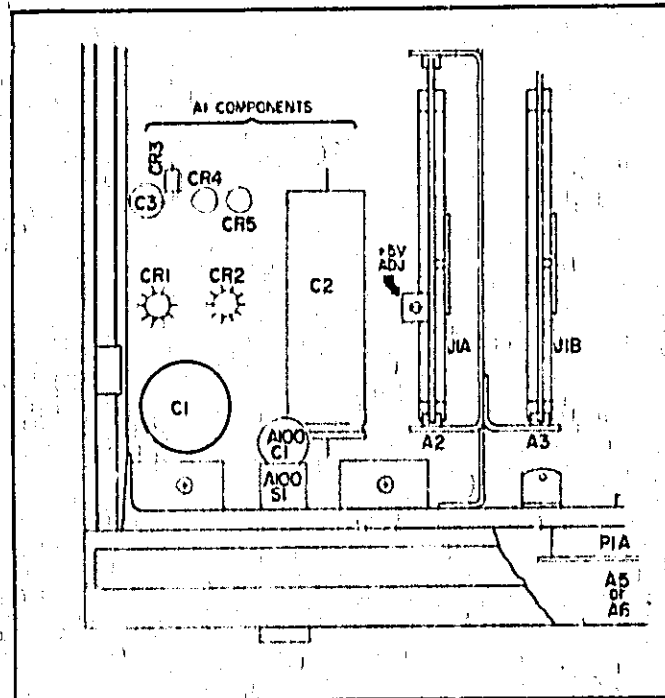

Figure 5-1. Five (5) Volt Adjustment.
c. Adjust A2R1 to give a reading on the voltmeter of $+5\text{ V} \pm 3\%$. This adjustment screw is shown in Figure 5-1.